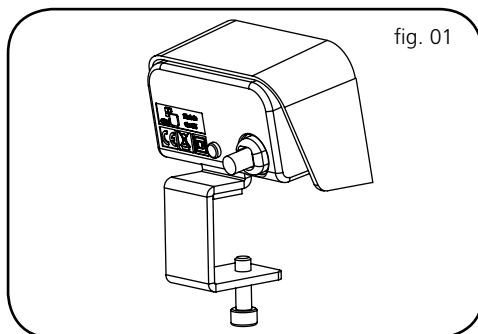

fig. 01
1. The Chip module is supplied with the C clamp installed (fig. 01).